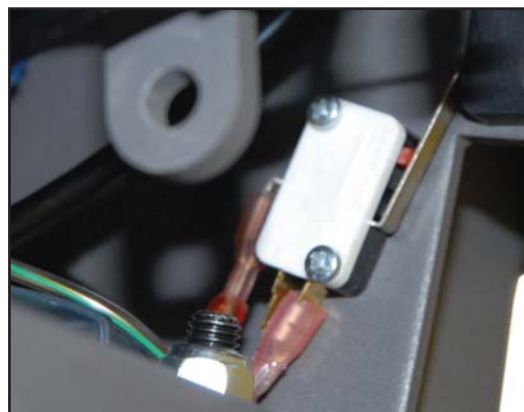

FIGURE 6.73
2. Using a #1 Phillips screwdriver, remove the two screws securing the Limit Switch to the Frame. Refer to **Figure 6.73**.
NOTE: The Limit Switch has a white side and a black side. Note that the white side of the Switch faces out and the black side toward the Frame. The arm of the Limit Switch is upward. Refer to **Figure 6.73**.